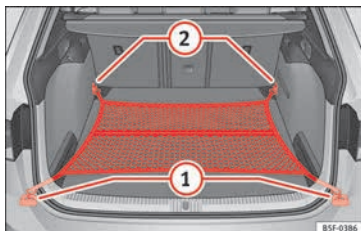

Fig. 175 In the luggage compartment: net bag hooked up at floor level (LEON ST model).
- As applicable, lift the front fastening rings » Fig. 175 (2).
- Secure the net hooks to the fastening rings (2) » ⚠. The bag zip should be facing upwards.
- Secure the net hooks to the fastening rings (1).